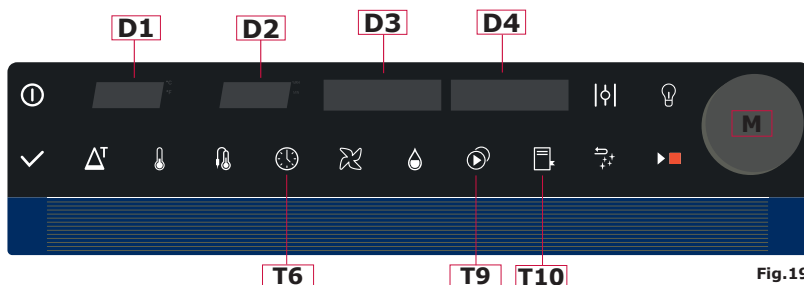

Fig.19
3. Press at the same time both dial **M** and button **T10** (Fig.19).
3. Press at the same time both dial **M** and button **T9 (Fig.19)**.
To perform this operation, simply hold down the button **T6 (Fig.19)** and follow the instructions of the D3 and D4 displays, turning the dial M clockwise or anti-clockwise and confirming the data selected by pressing the same dial.